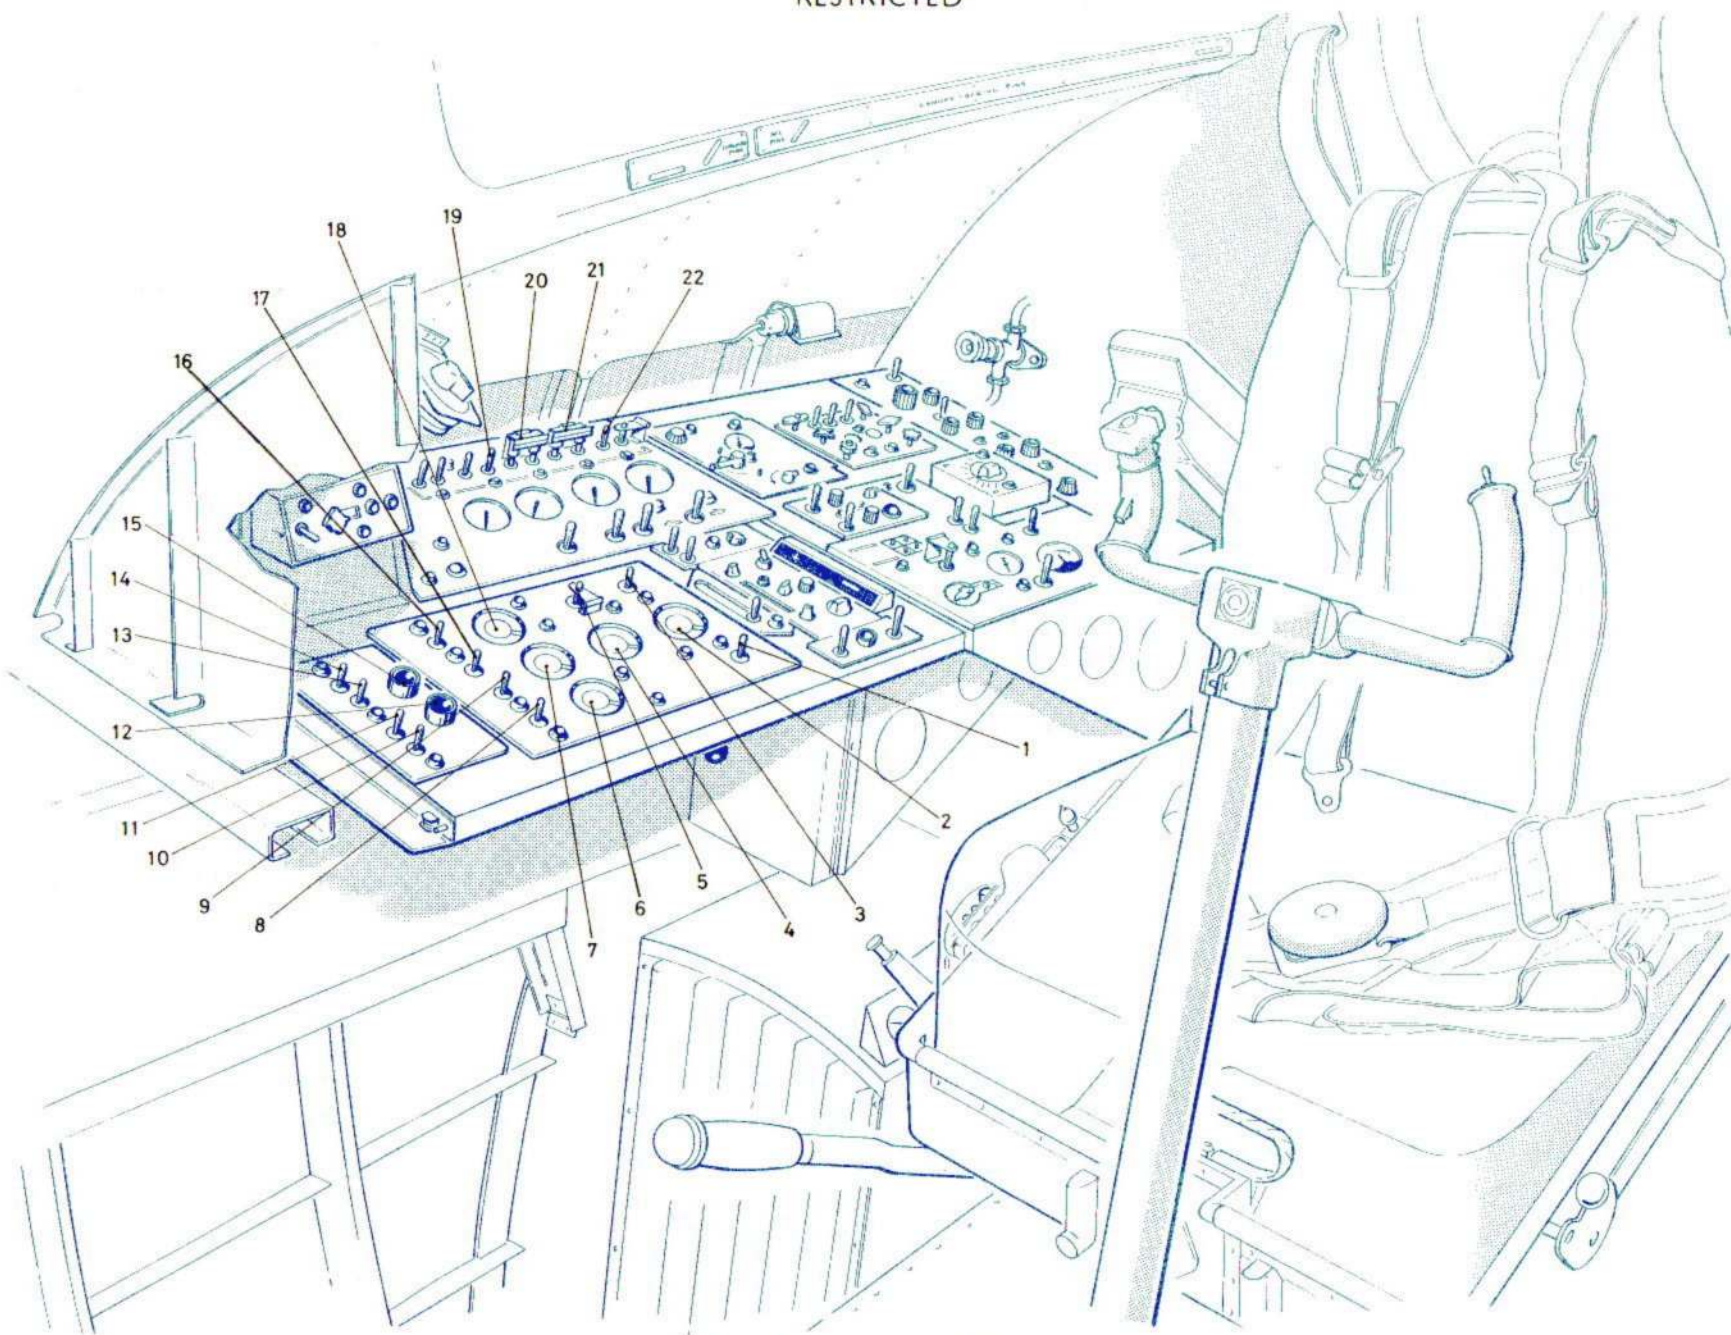

Fig.4 Engine controls (2) ◀MOD 4990▶
Key to Fig. 4 - ENGINE CONTROLS (2)